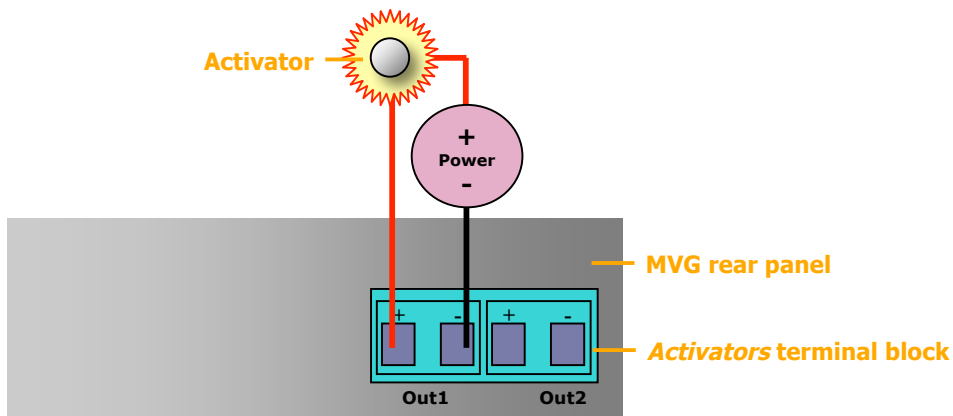

Figure 18: Connecting an activator that has its own power supply
2. Connect the two contacts of the activator to the Activators terminal block on the rear panel of the MVG, as illustrated in figure 18.